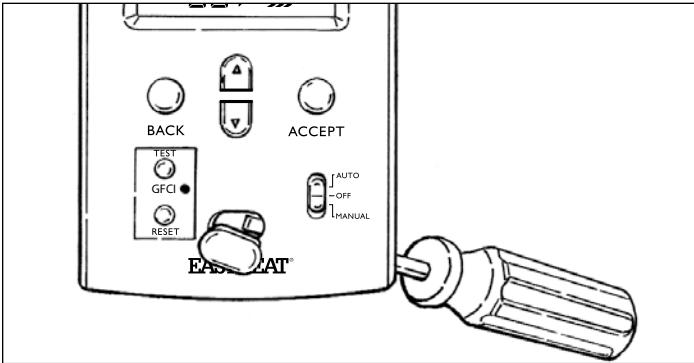

Figure 3
2. Pop out the Screw Cover by gently pushing from behind, with a screwdriver, see Figure 3.